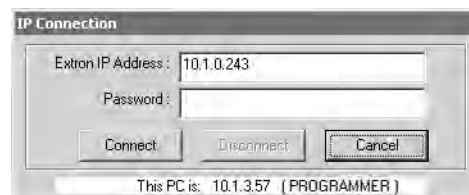

Figure 31. Address and Password Entry
3. If you selected IP [LAN] in step 2, the IP connection window appears (see figure 31). The window displays the last IP address that this computer was logged on to via the ISS/ISM Control Program. If no one has logged on to the ISM from this computer, enter the ISM IP address. If the address has not been changed, the factory-specified default is 192.168.254.254.